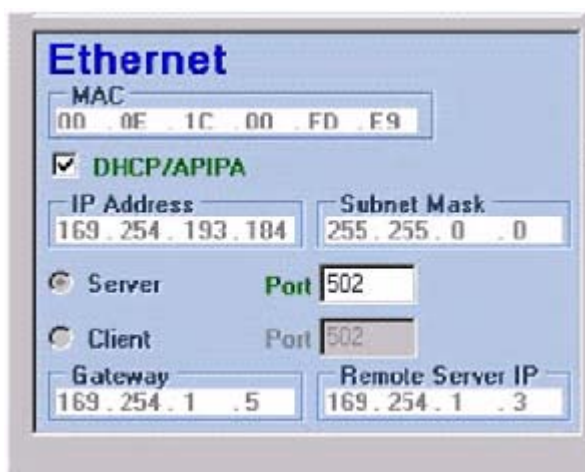

Figure 10 Ethernet section of utility program
Refer to Figure 10 and Table 3 for a description of the fields for Ethernet configuration.
3. Change the instrument settings if necessary. Refer to Figure 10 and Table 3 for a description of the settings. When configured as necessary, click **SAVE SETTINGS**.